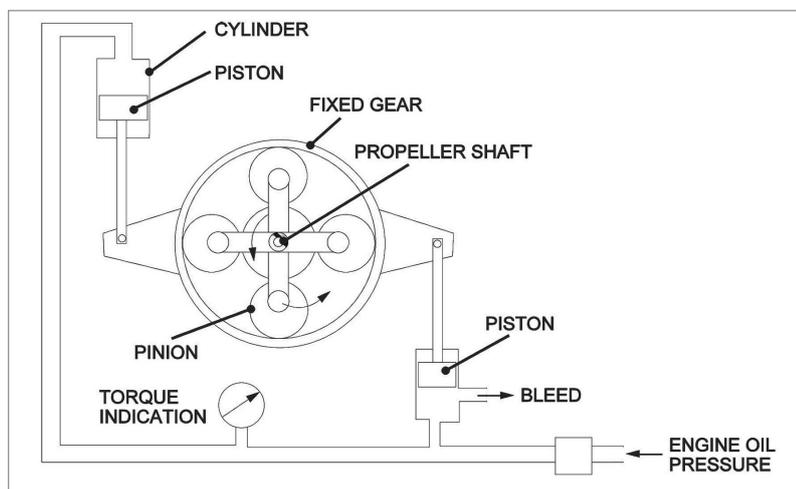

Figure 12.24
- **Oil pressure** - where the end thrust of a helically cut planet wheel or the torque reaction of a ring gear is used to alter the oil pressure of the torque transmission system. This pressure is then read off on the torque meter gauge. *Figure 12.24* shows the ring gear system.